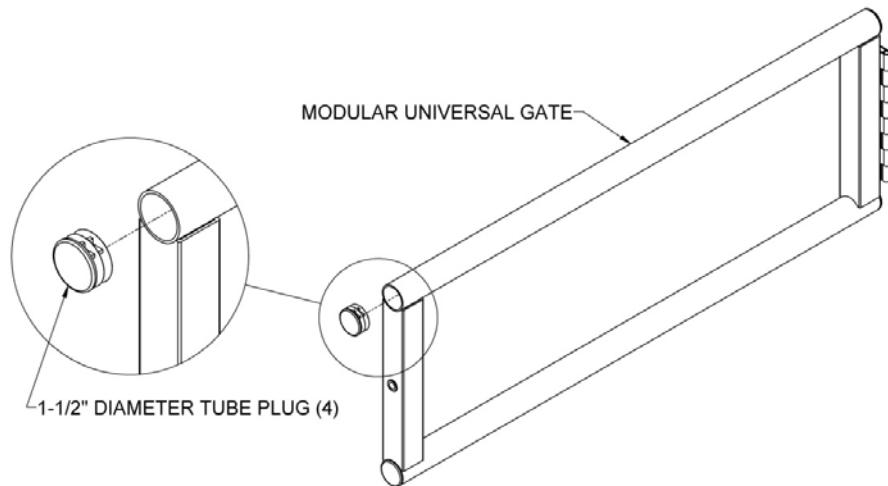

FIG. 1
- 2.1. Install the 1-1/2" diameter tube plugs into ends of the 1-1/2" diameter tubes on the gate (FIG. 1).